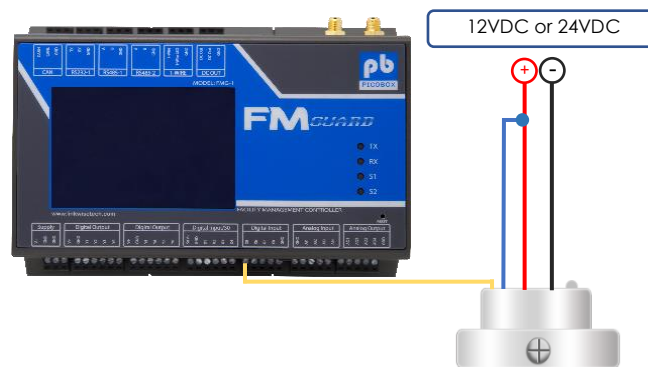

Figure 5
**Example 2:** Figure 5 shows the connection of one unit of SP-12 to FMG